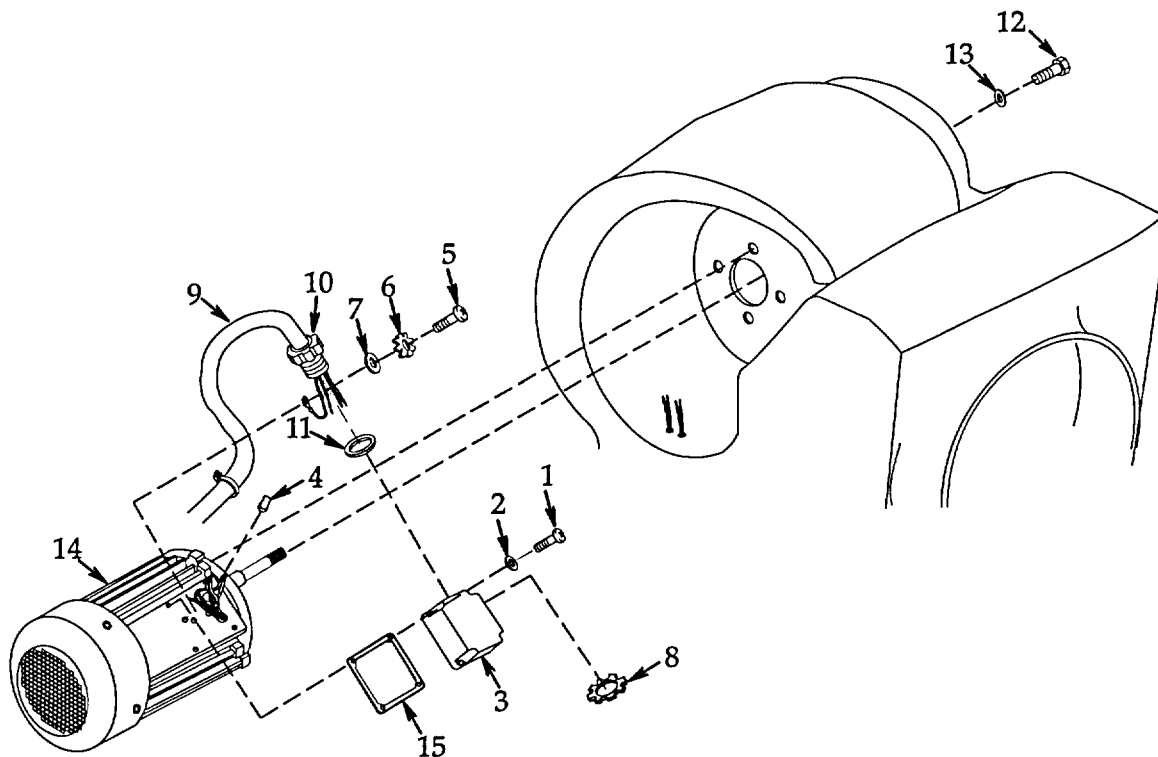

Figure 4-47. Inside Blower Motor.
a. **Removal.** See figure 4-47.
b. **Installation.** See figure 4-47.
- (1) Install inside blower motor (14) and orient as illustrated. Secure with four flat washers (13) and screws (12).
- (2) Install blower assembly per paragraph 4.47.
- (3) Remove four screws (1), flat washers (2), and inside blower motor cover (3).
- (4) Remove locking nut (8). With sealing washer (11) in place, install cable (9) with strain relief fitting (10) into inside blower motor cover (3) and secure with locking nut. Be sure gasket (15) is in place on cover.